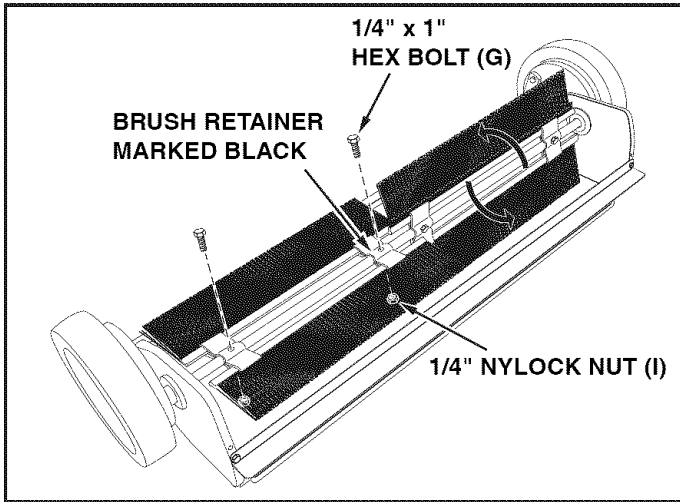

FIGURE 4
STEP 4: (SEE FIGURE 4)
- Attach the brush assembly with the black brush retainer to the left end of the brush shaft using two 1/4" x 1" hex bolts (G) and 1/4" nylock nuts (I). The brush retainer marked with black ink must be placed to the **middle** of the sweeper.